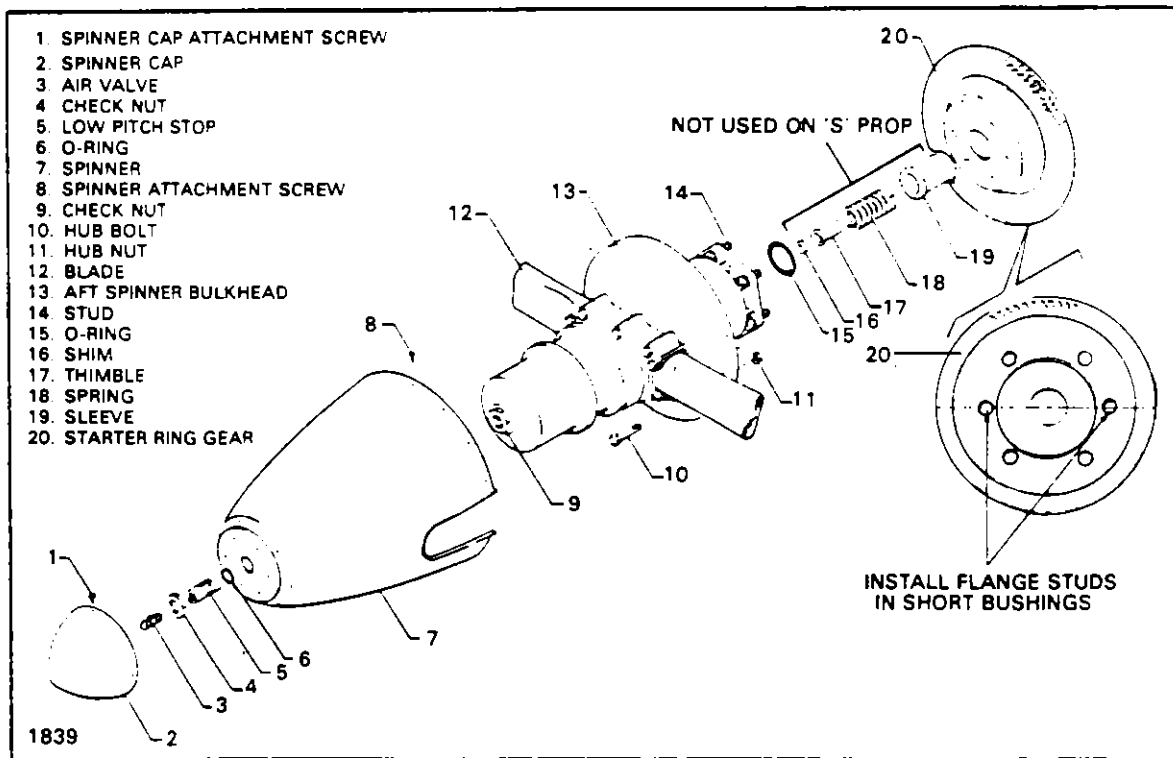

Figure 8-2. Standard Propeller Installation
8-9. REMOVAL OF PROPELLER. (Refer to Figure 8-2.) This includes all propellers, standard and with spring backup kit installed, identified by a letter "S" in the dash number.
8-11. INSTALLATION OF PROPELLER. (Refer to Figure 8-2.)
- b. Install spinner bulkhead (13) on propeller hub and secure with locknuts. Torque bolts to specifications given in Table VIII-I.
- d. Position the prop flange and starter ring gear so the two short bushings are horizontal. (Refer to Figure 8-2.)
- e. Lubricate and install "O" ring (15) in prop hub.
- f. Install sleeve (19), spring (18), thimble (17) and shim (16) in engine crankshaft on